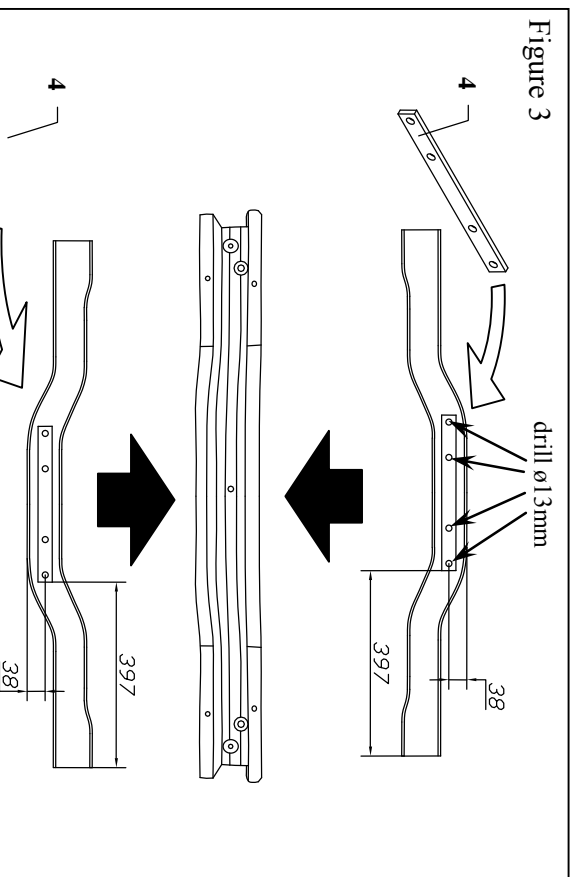

Figure 3
4. Disassemble metal support of the bumper. Apply central fish-plate (pos. 4) as shown on the figure 3. Mark points on foot and head part of the beam. Drill at marked points holes $\varnothing 13\text{mm}$.